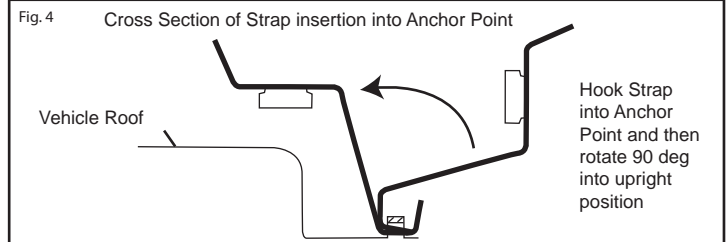

Fig. 5
5. Manoeuvre the Retaining Strap until its hooked section fits under the Anchor Point. Rotate the top of the strap inwards of the vehicle and pull the Strap upward to secure it within the Anchor Point (Fig.4 & Fig.5).